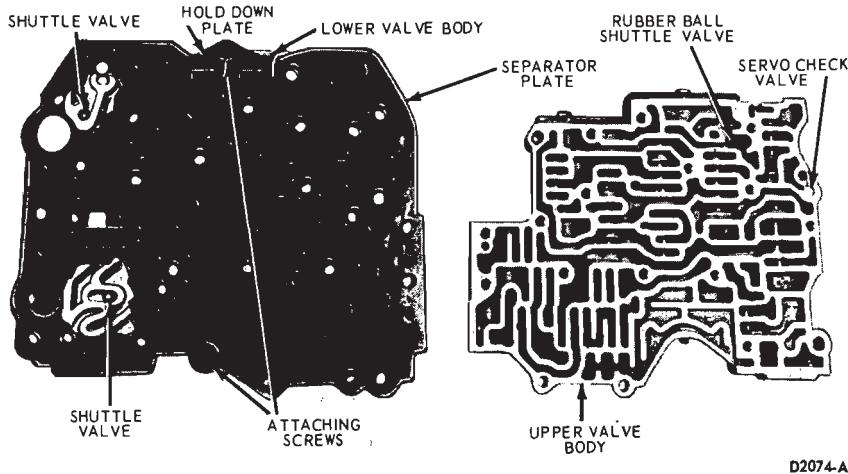

FIG. 58—Separating Upper and Lower Valve Bodies—C4 Automatic—All Except Falcon
2. Remove the nine attaching screws from the underside of the lower valve body. Separate the lower valve body, gasket, separator plate and hold-down plate (Fig. 58) from the upper valve body. Be careful not to lose the upper valve body shuttle valve and check valve when separating
1. Place the two shuttle valves in the lower body as shown in Figure 58. Position the gasket, separator plate and hold-down plate on the lower body and install the two attaching screws. Torque the screws to specification.
15. Position the rubber ball shuttle valve and servo check valve in the upper valve body (Fig. 58).